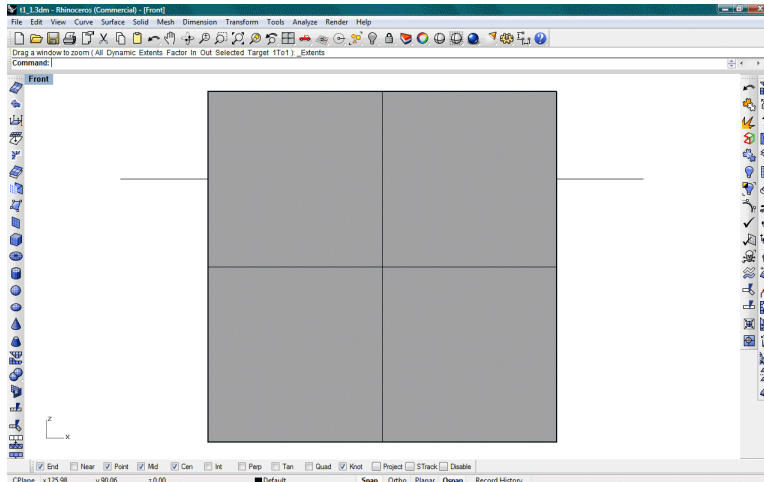

Figure 46: View of the model with horizontal line segment at z=50.
23. Enter **-150,50** followed by **<ENTER>** to set the first point, then **150,50** followed by **<ENTER>** to set the second one (Figure 46).